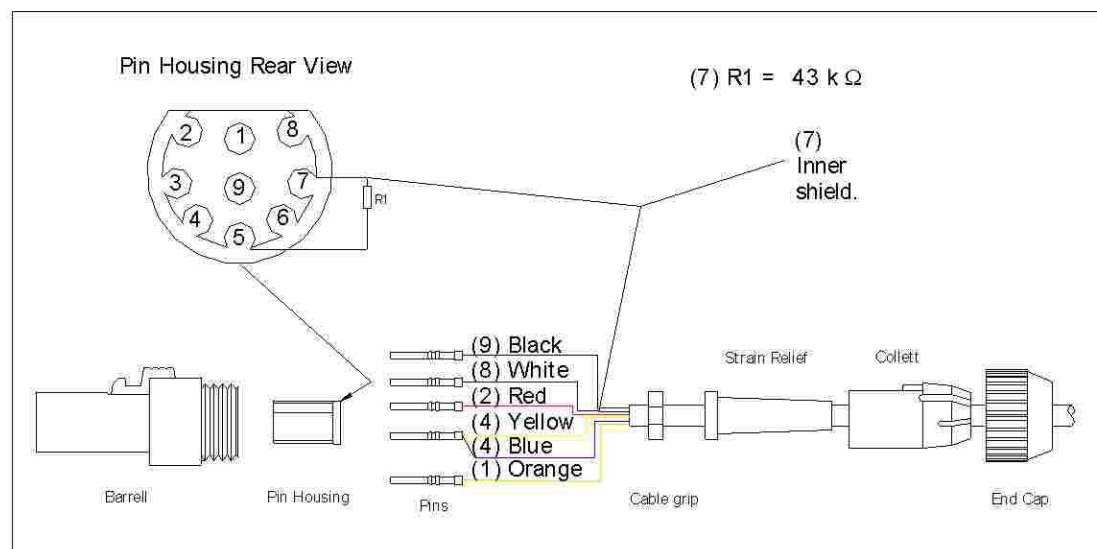

Fig 2.2
9. Cover the resistor in Ø1.6mm heat shrink and solder each leg into the rear of 2 separate pins and push pins firmly into correct locations as shown in fig 2.2.
10. Solder the shield to pin 7, covering it with Ø1.6mm heat shrink, and the and remaining wires to the rear of 4 separate pins and push/pull firmly into correct locations shown in fig 2.2.